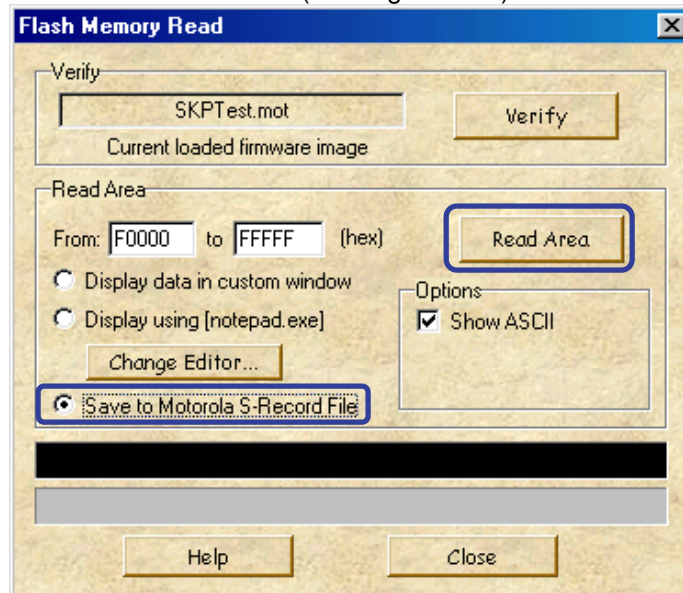

Figure 4-12 Flash Memory Read screen-4
- (5) To save the read data, select the <Save to Motorola S-Record File> and click the <Read Area> button. (See Figure 4-12)